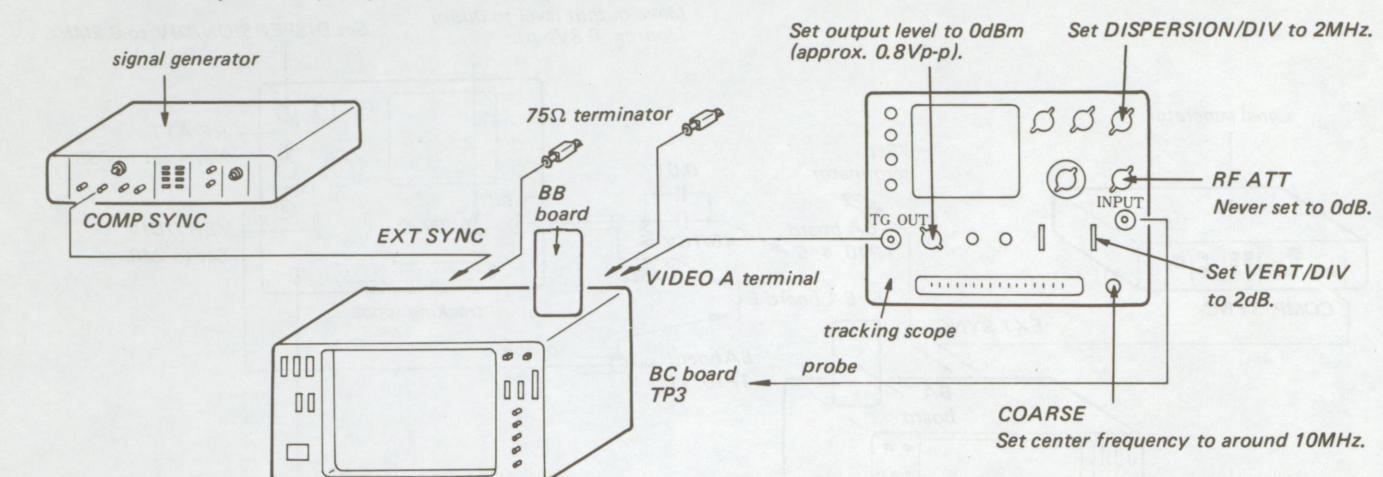

Fig. 5-54.
1. Complete the connections as shown in Fig. 5-54.